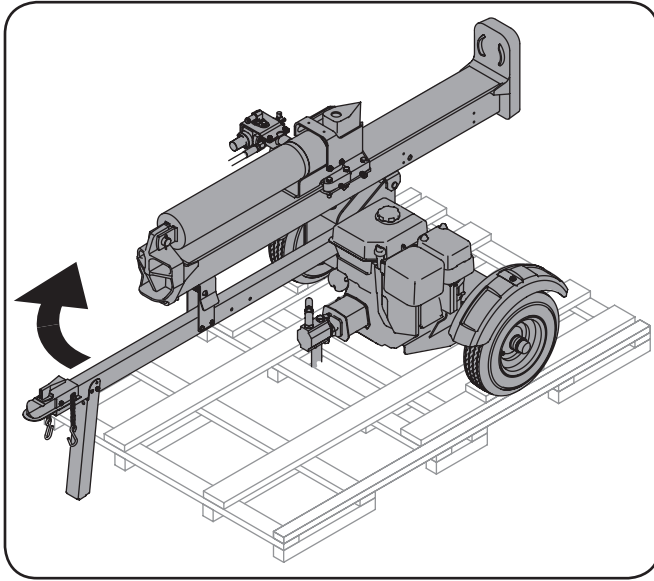

Figure 3-7
- Carefully reposition the log splitter off of the crate by lifting up on the tongue tube, near the hitch coupling, and slowly rotating the machine clockwise. See Fig. 3-7.